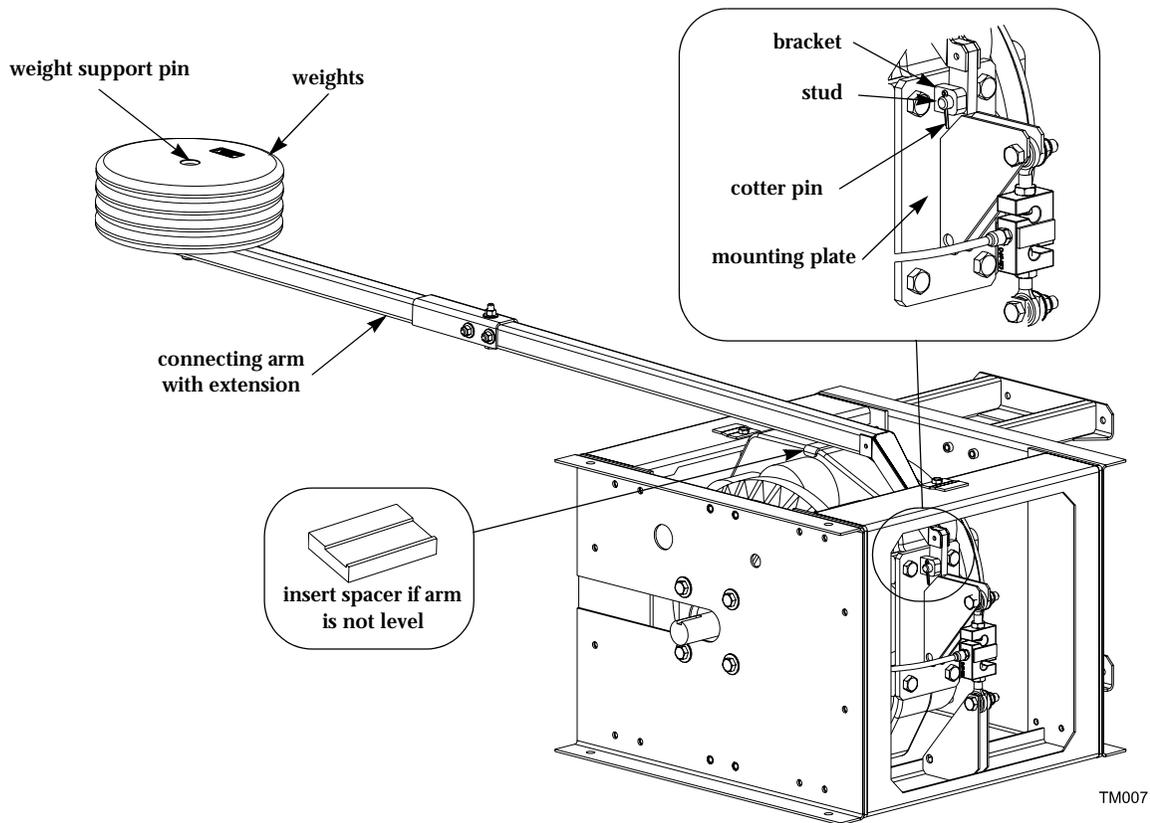

Figure 2-5: Install Calibration Arm and Weights
- 7 Install the calibration arm and weights. Refer to step 8 and Figure 2-5 on page 2-5.